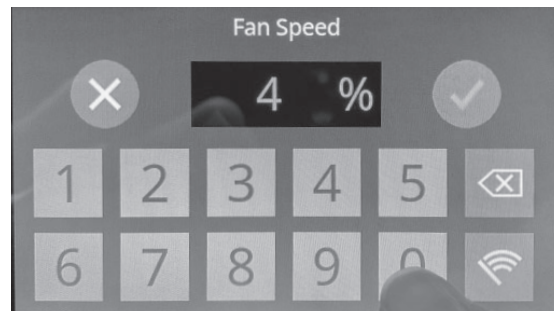

Figure 14
4. **Set Fan Speeds:** Press the top fan value to set the upper fan speed. Press 4-0 for 40% fan speed and then touch the check mark to save the new upper fan speed or X to return to the original setting. Press the lower fan value to set the lower fan speed. Press 4-0 for 40% fan speed and then touch the check mark to save the new lower fan speed or X to return to the original setting. (Figure 14 and Figure 15)